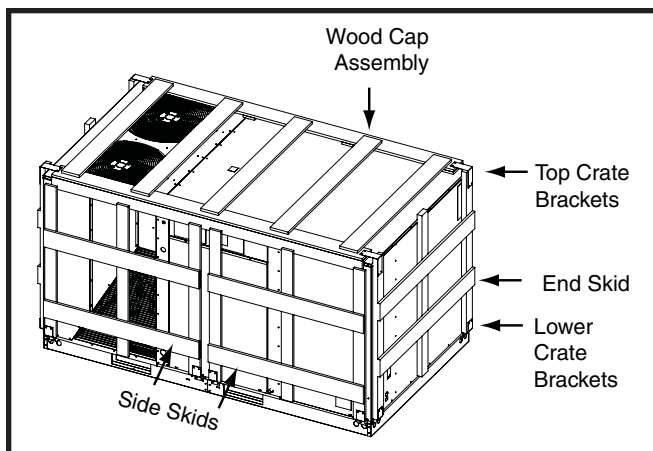

Figure 3. Side View
1. Remove top crate brackets and wooden cap assembly from top of unit (Figure 3, page 5).